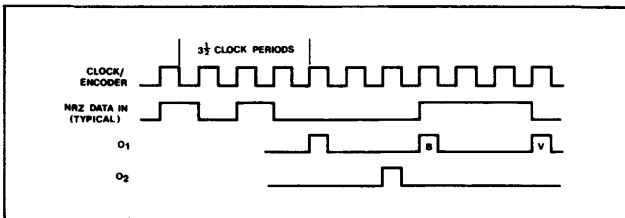

Fig. 3 Encode waveforms
1. The Encoded ternary outputs (O_1, O_2) are delayed by $3\frac{1}{2}$ clock periods from NRZ data in (Fig.3).